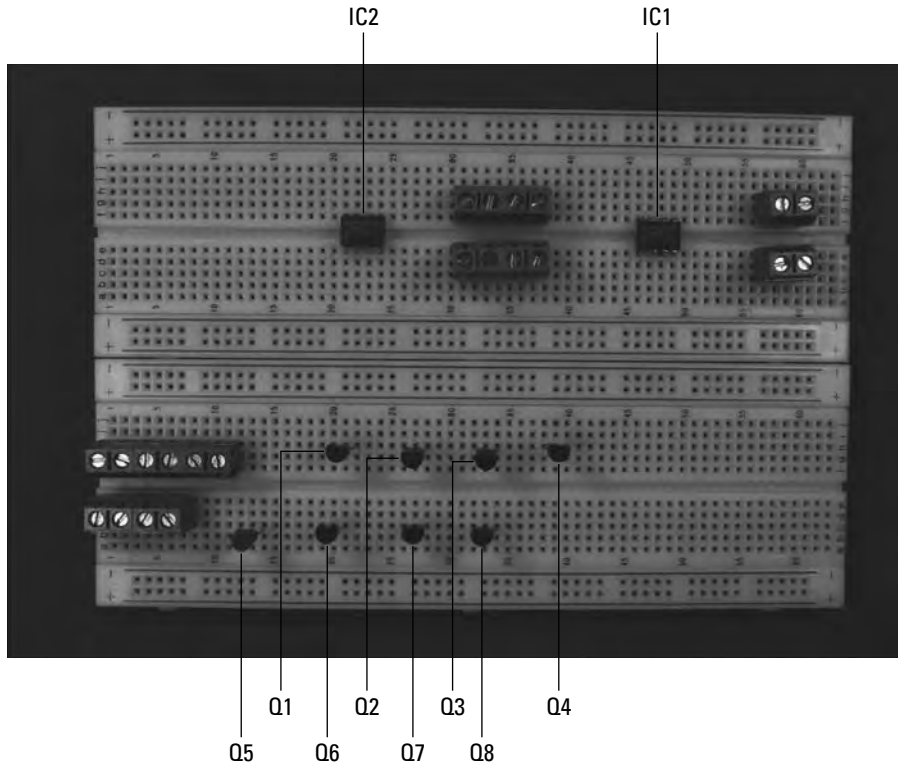
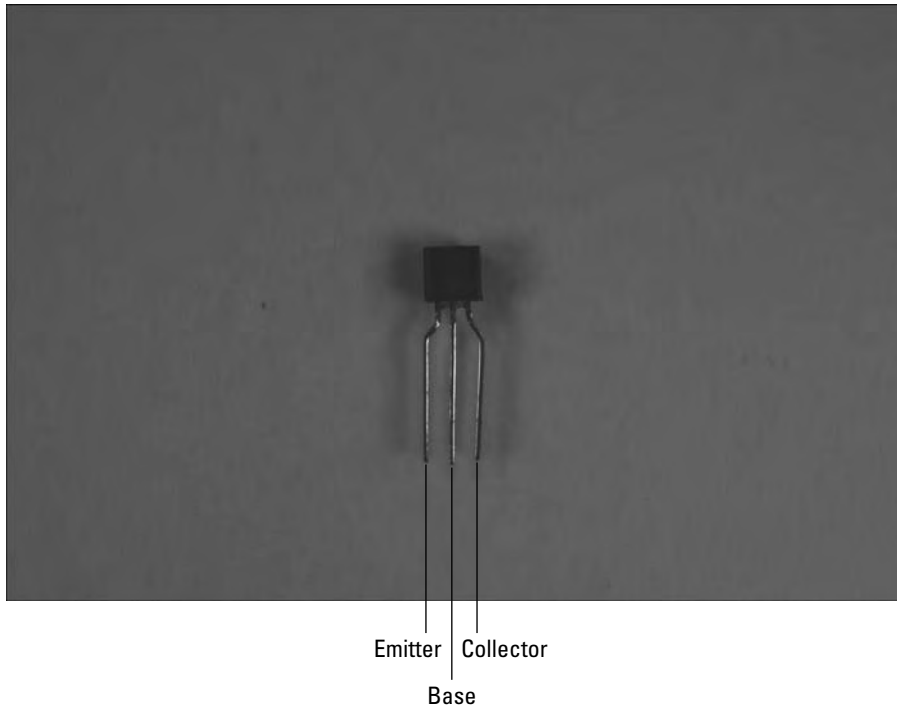

Figure 5-4:
Figure 5-5:
1. Place the two LM385 ICs (IC1 and IC2) and 11 terminal blocks on the breadboard, as shown in Figure 5-4.
2. Place the eight 2N3904 (Q1–Q8) transistors on the breadboard, as shown in Figure 5-4.
Insert each transistor lead into a separate breadboard row with the collector lead to the left side (as shown in Figure 5-4), the base lead in the center, and the emitter lead to the right. The pin designations of the 2N3904 transistors are shown in Figure 5-5.